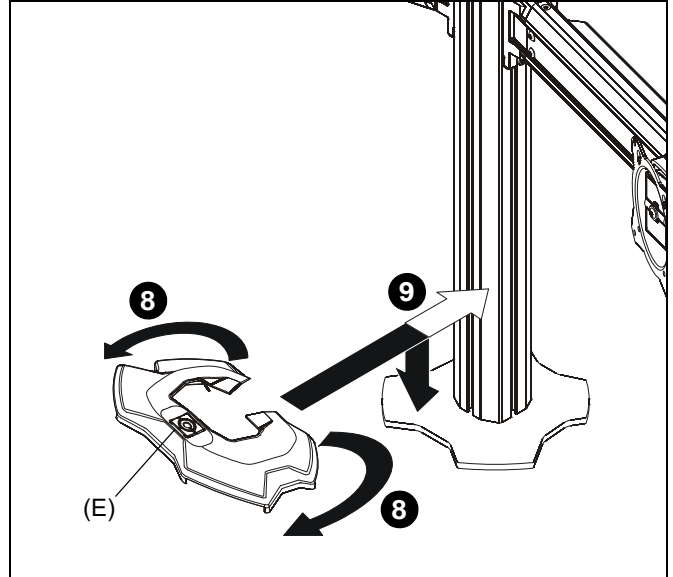

Figure 10
8. Carefully manipulate base cover (E) to create an opening large enough to wrap cover around array column. (See Figure 10)
9. Wrap base cover around column and slide it down until base cover fits securely onto table top base (C). (See Figure 10)